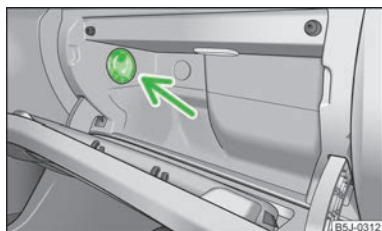

Fig. 66
- Use the rotary switch » Fig. 66 to open/close the air supply.